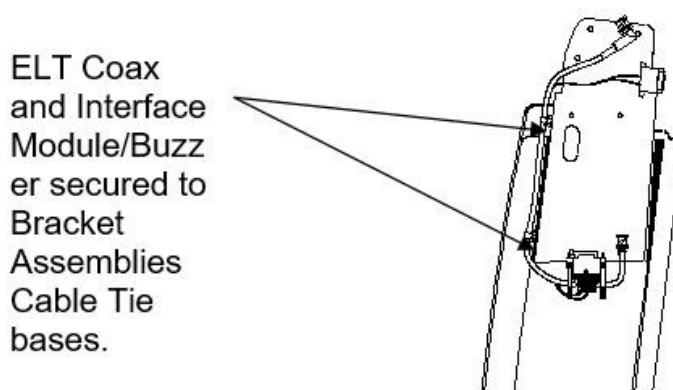

Figure 4. Installation of coax, interface module, and buzzer.
20. Route and secure the ELT coax assembly and interface module/buzzer on to the baggage/ bracket tray's cable tie bases. Refer to Figure 4.